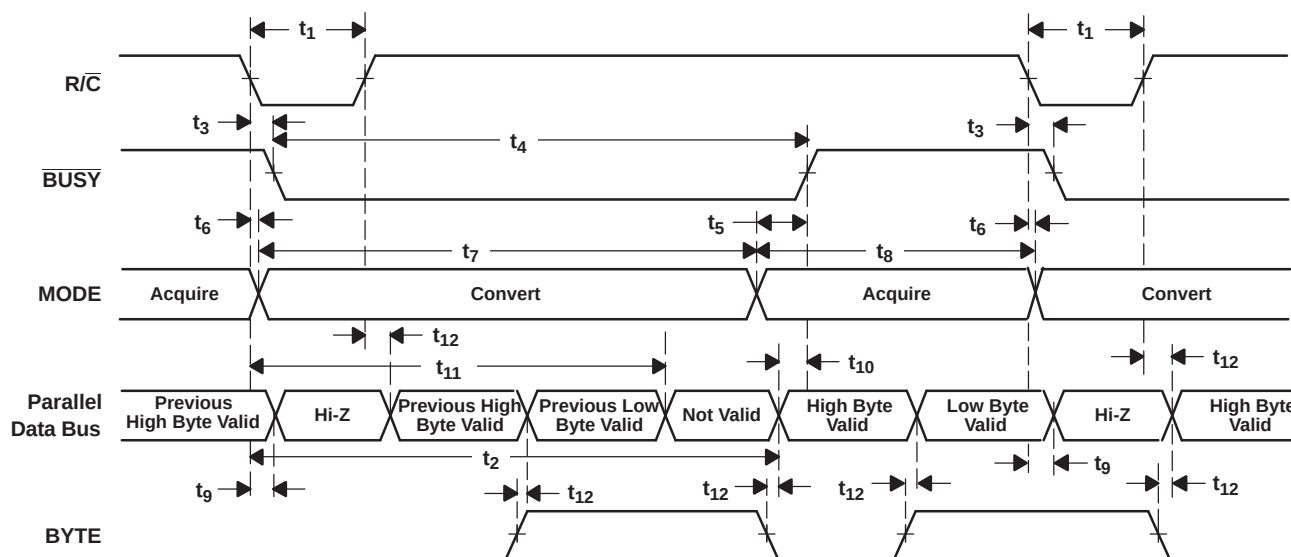
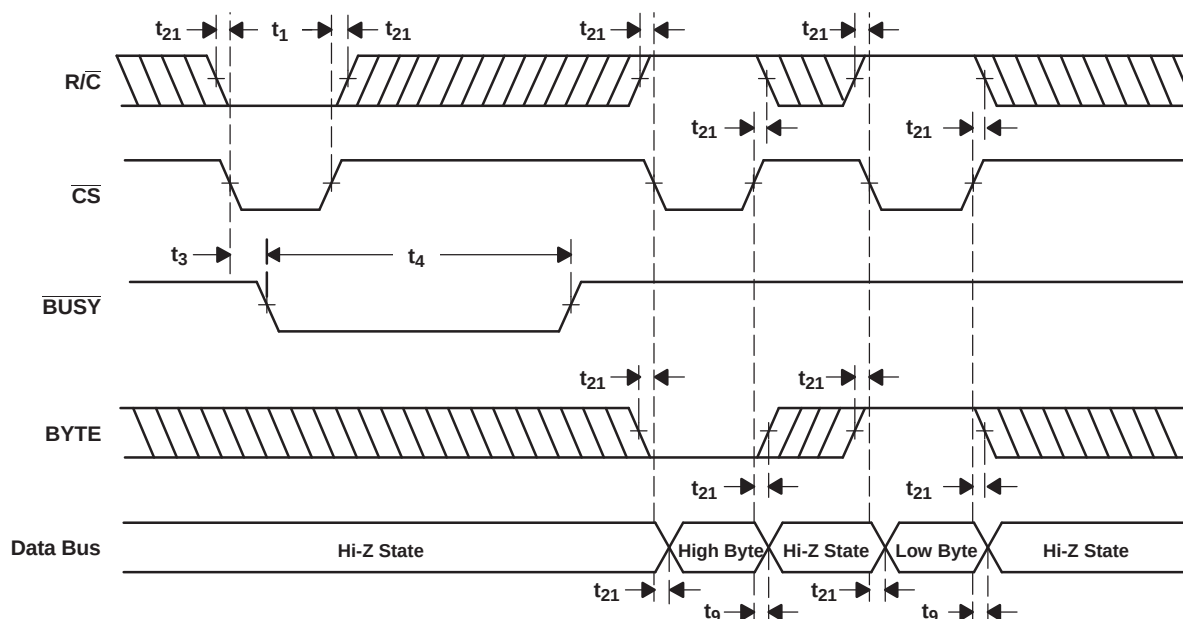

Figure 33. Conversion Timing With Parallel Output ($\overline{\text{CS}}$ and DATACLK Tied Low, $\overline{\text{EXT/INT}}$ Tied High)
Figure 34. $\overline{CS}$ to Control Conversion and Read Timing With Parallel Outputs
The ADS8507 begins tracking the input signal at the end of the conversion. Allowing 25 μ s between convert commands assures accurate acquisition of a new signal. Refer to Table 2 and Table 3 for a summary of $\overline{\text{CS}}$, $\text{R}/\overline{\text{C}}$, and $\overline{\text{BUSY}}$ states, and Figure 33, Figure 34, Figure 35, Figure 36, Figure 37, Figure 38, and Figure 39 for timing diagrams.
(1) See Figure 33 and Figure 34 for constraints on data valid from conversion N–1.
After conversion N is completed and the output registers have been updated, $\overline{\text{BUSY}}$ (pin 24) goes high. Valid data from conversion N is available on D7-D0 (pin 9-13 and 15-17). $\overline{\text{BUSY}}$ going high can be used to latch the data. Refer to Table 5 and Figure 33 and Figure 34 for timing specifications.
After conversion N has been initiated, valid data from conversion $N-1$ can be read and is valid up to 12 μs after the start of conversion N . Do not attempt to read data beyond 12 μs after the start of conversion N until $\overline{BUSY}$ (pin 24) goes high; this may result in reading invalid data. Refer to Table 5 and Figure 33 and Figure 34 for timing constraints.